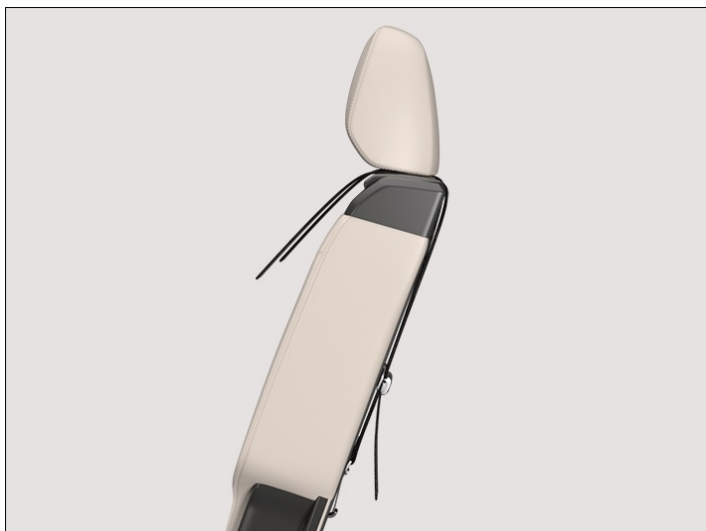

Fig. 2 On the rear of the outer seats on the rear bench seat: attached top tether.
6. Guide the top tether of the child seat to the rear over the seat and hook it into the corresponding anchor point labelled "top tether" → Fig. 2.